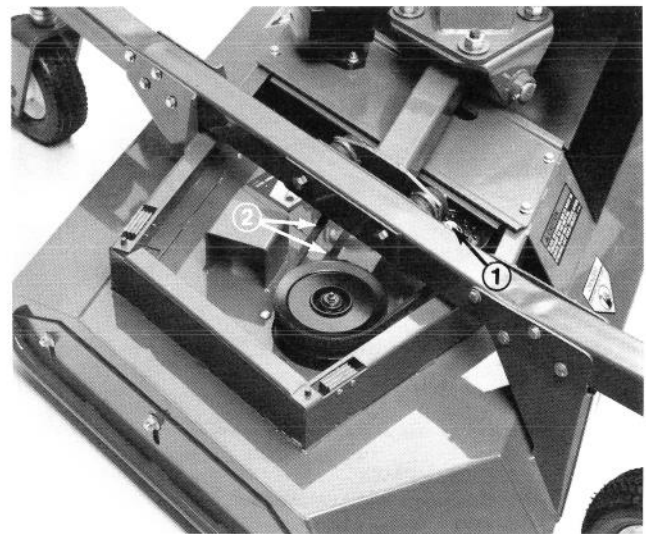

Figure 65
2. To tension belts, loosen flange locknut at top of idler pulley (Fig. 65). Slide pulley against belt until proper tension is reached. Hold pulley in position and tighten locknut.
2. Remove deck covers and relieve belt tension on all belts (Fig. 65).